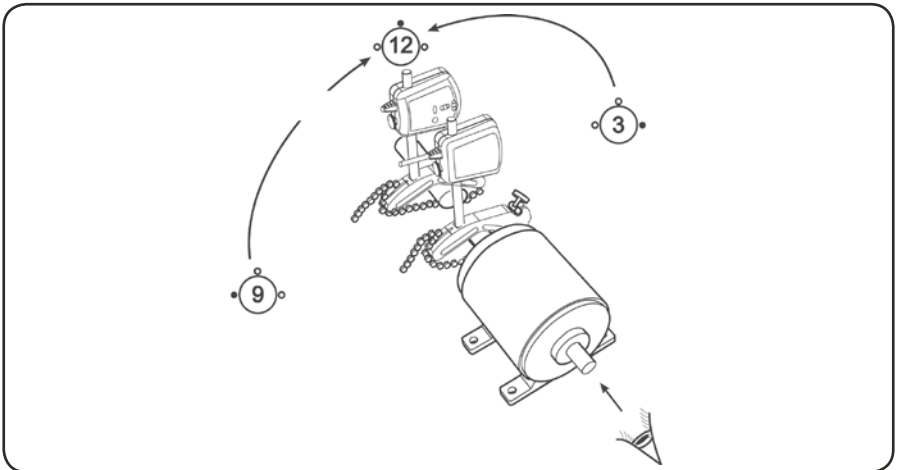

Fig. 10. The 12 o'clock position
- a) Put the two measuring units in the 12 o'clock position with the help of the spirit levels (fig. 10).